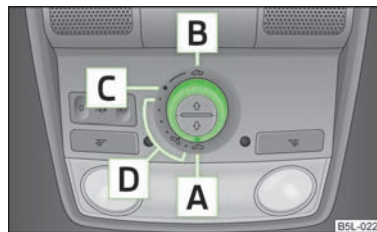

Fig. 20
The panoramic sliding roof with sun screen can only be operated with the rotary switch when the ignition is switched on » Fig. 20. The control dial has several positions.
If the battery has been disconnected and reconnected, it is possible that the sliding/tilting roof does not close fully. This is why the rotary switch must be set to the switch position **A** » Fig. 20 and pressed forward for about 10 seconds.
- > Turn the switch to position **C** » Fig. 20.